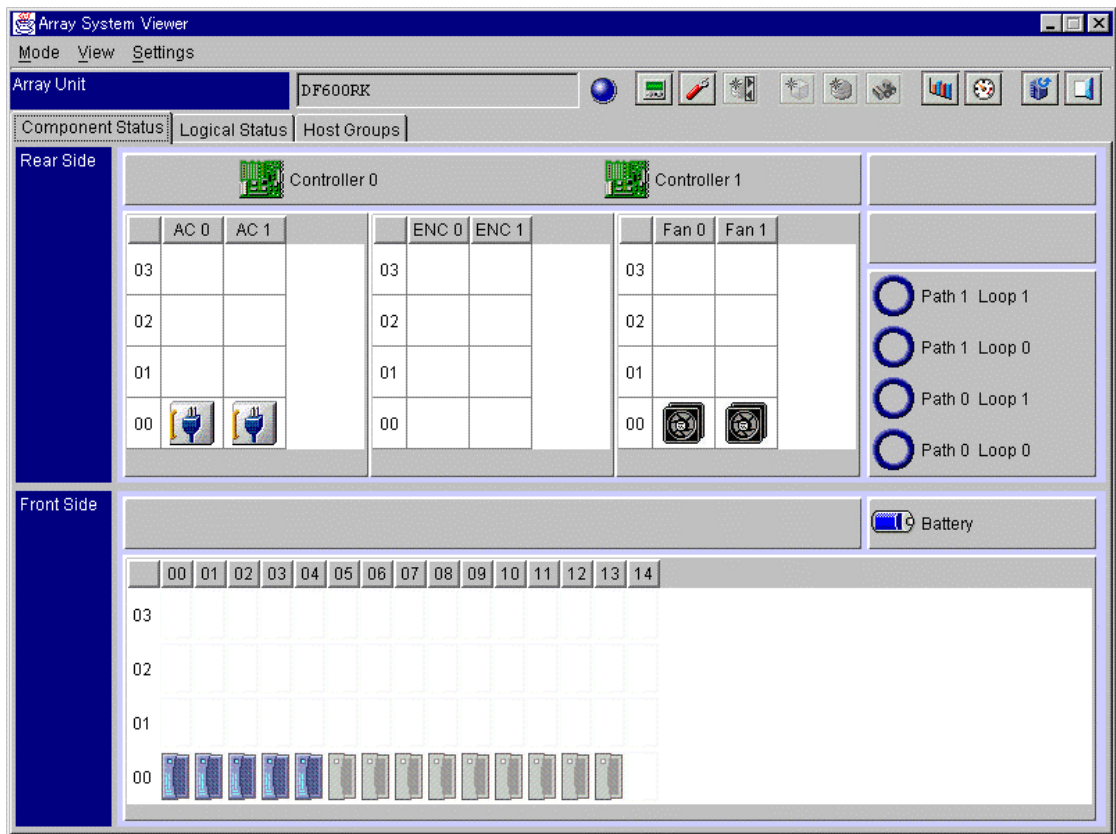

Figure 4.1 Array System Viewer
2. Register the array unit in which you will install SNMP. Connect to this array unit; a window for the connected array unit is displayed (see Figure 4.1).
2. Register the array unit in which you will uninstall SNMP. Connect to this array unit; a window for the connected array unit is displayed (refer to Figure 4.1).
2. Register the array unit in which you will set up SNMP. Connect to this array unit; a window for the connected array unit is displayed (refer to Figure 4.1).